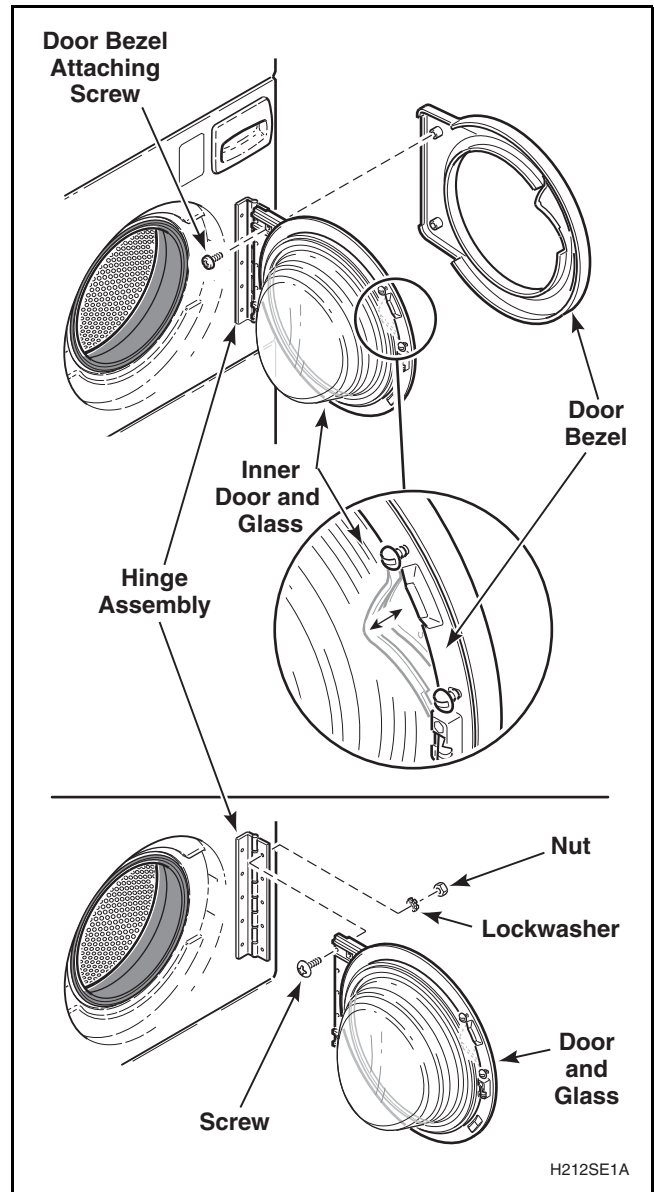

Figure 44
- Remove door bezel by removing screws holding door bezel to inner door and glass. Refer to *Figure 44*.
- While supporting loading door, remove screws, lockwashers and nuts holding loading door to hinge assembly and remove door. Refer to *Figure 44*.